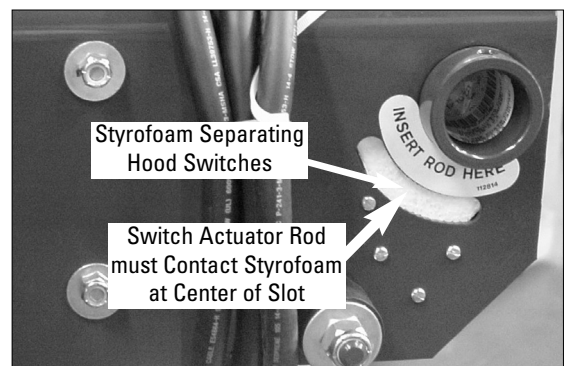

Figure 5 - Slot on the Hood Bracket
10. Next, install the hood assembly to the hood bracket. Carefully line up the switch actuator rod so that it contacts the Styrofoam in the middle of the slot and remains centered as the stationary hood bar is pushed in. As the stationary hood bar is pushed in, the actuator rod must push the Styrofoam in. Refer to figure 5. Be sure the Styrofoam is pushed clear. If not, use a small screwdriver to push it in and out of the way.